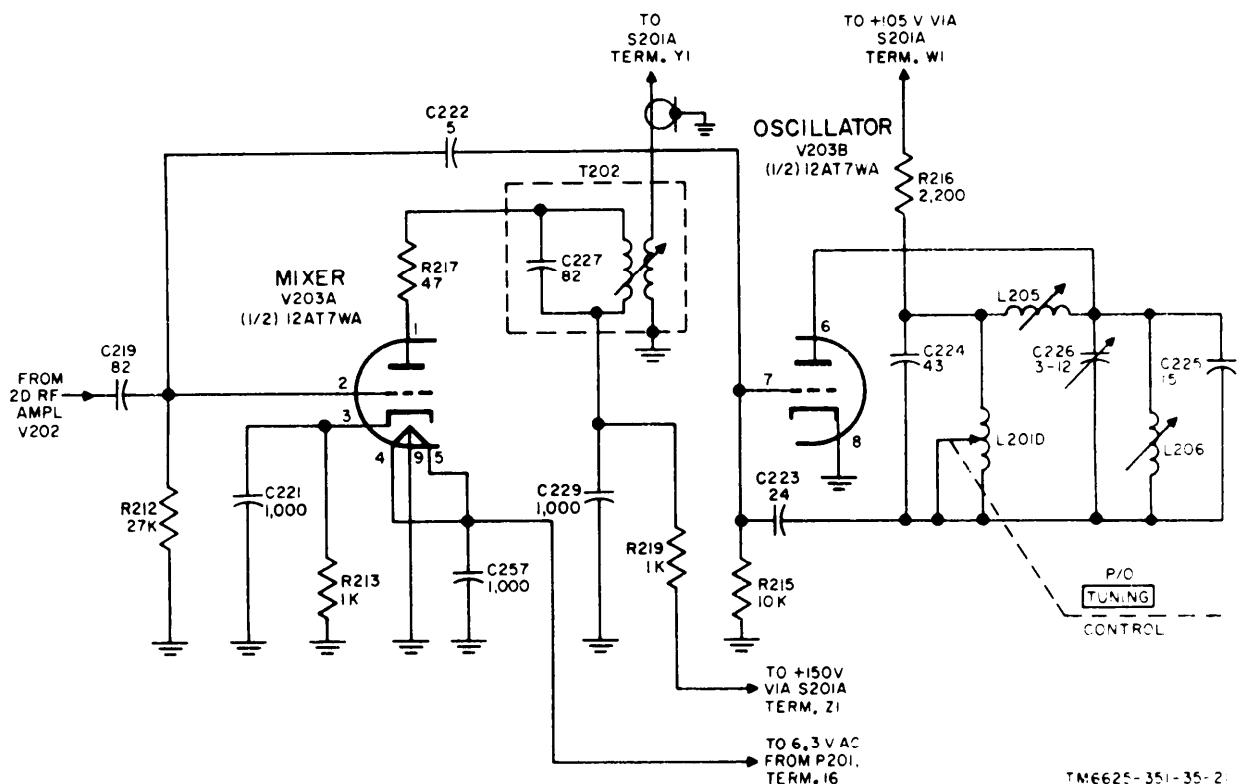

Figure 22. Tuning unit 2, mixer and oscillator (20-70 mc), schematic diagram.
36. Rf Tuner, Analysis of 20-70-Mc Mixer and Oscillator (fig. 22)